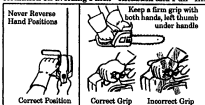

Figure 3
1. Keep a good, firm grip on the saw with both hands when the motor is running and don't let go. Figure 3. A firm grip can neutralize kickback and help you maintain control of the saw. Keep the fingers of your left hand encircling and your left thumb under the front handlebar. Keep your right hand completely around the rear handle whether you are right handed or left handed. Keep your left arm straight with the elbow locked.
2. Position your left hand on the front handlebar so it is in a straight line with your right hand on the rear handle when making bucking cuts. Figure 3. Never reverse right and left hand positions for any type of cutting.
4. Stand slightly to the left side of the saw to keep your body from being in a direct line with the cutting chain. Figure 3.